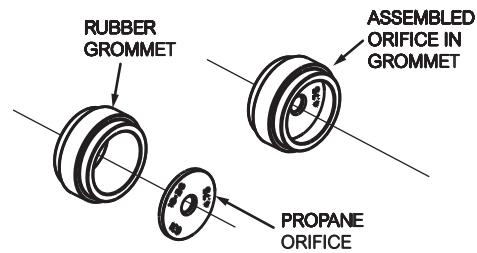

Fig. 49: Rubber Seal & Propane Orifice
9. Insert the Propane orifice inside this grommet. There is a thin slot allocated for the orifice to slip into. (see Fig 49).